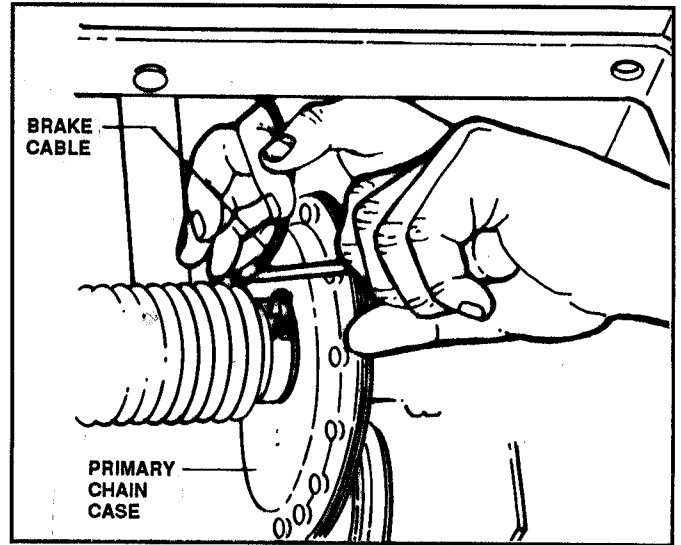

FIGURE 4.36
9. Disconnect Brake Lever Assembly from rear of Chain Case, then disconnect Brake Cable Housing from clip on Chain Case. See Figure 4.36.